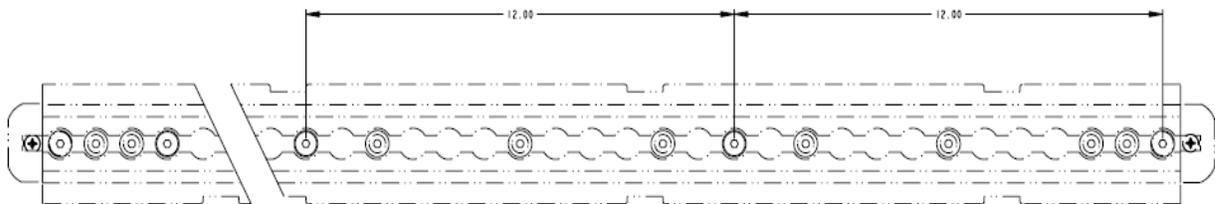

Figure 1
- 2) After reviewing the layout of the track, mark off with tape the first location near end of track as in Figure 1. Next mark off 12" from that location to the next on same piece of track. Continue marking off every 12" until end of that section and for each of the remaining sections.
- 3) Drill using a "P" bit (.3230" bit), drill hole centered on track at each of the markings provided in step 2. (This may require removing seats if drill will not fit.) This hole will be thru the track and floor. See Figure 1.